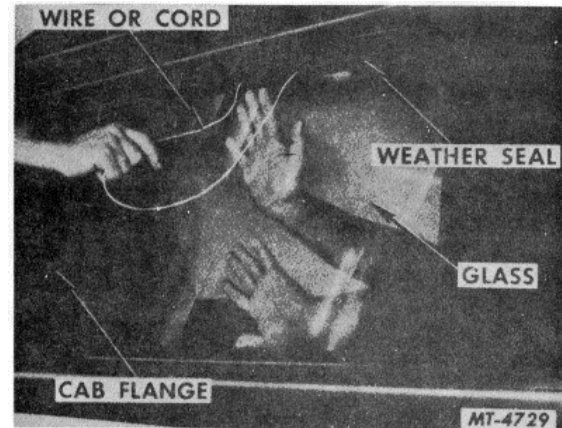

Fig. 32
3. With an assistant carefully place the window glass, with weatherseal attached, in position in the cab opening. The illustration shows the cord used for installing the glass terminating at the top of the glass. The cord may be installed with the ends at the bottom of the glass, Fig. 32.